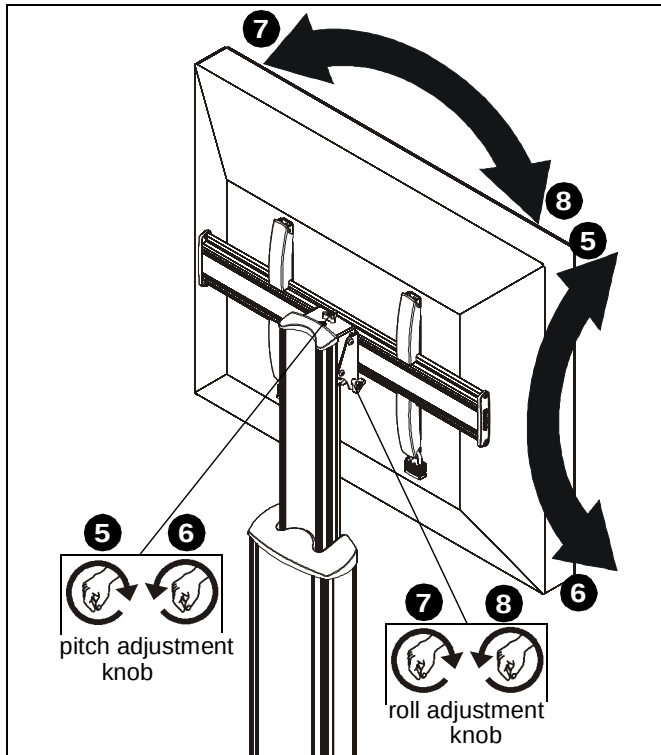

Figure 18
- Turn pitch adjustment knob clockwise to tilt display forward. (See Figure 18)
- Turn pitch adjustment knob counterclockwise to tilt display back. (See Figure 18)
- Turn roll adjustment knob clockwise to adjust roll to the left. (See Figure 18)
- Turn roll adjustment knob counterclockwise to adjust roll to the right. (See Figure 18)